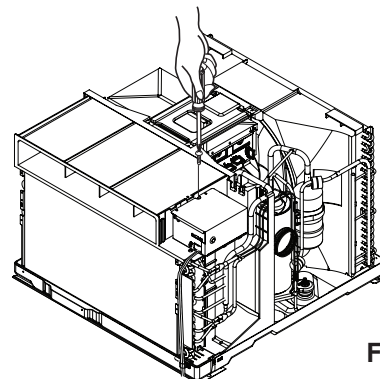

Figure 4
13. Raise the control box upward completely. (See Figure 4)